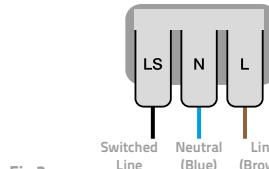

Fig 3
- For switched maintained operation please wire up the fitting as shown in fig 3.